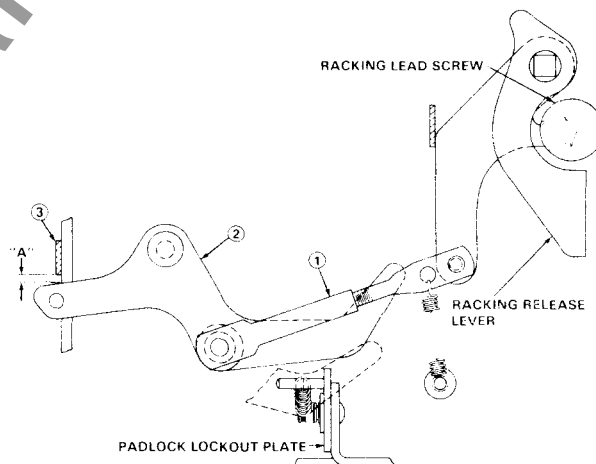

Fig. 7 — Racking Mechanism
5.11 RACKING MECHANISM (See Figure 7)